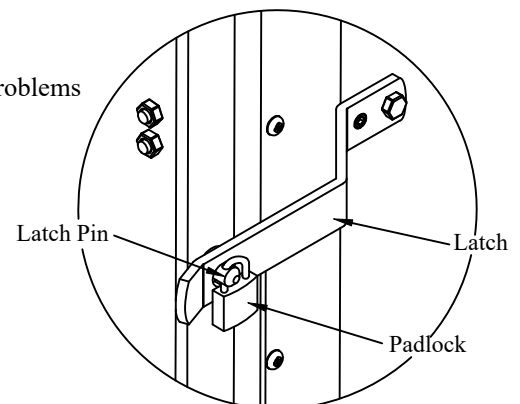

Figure 13: Padlock location.
9. **Lock** the padlock through the hole in the latch pin (Figure 13).